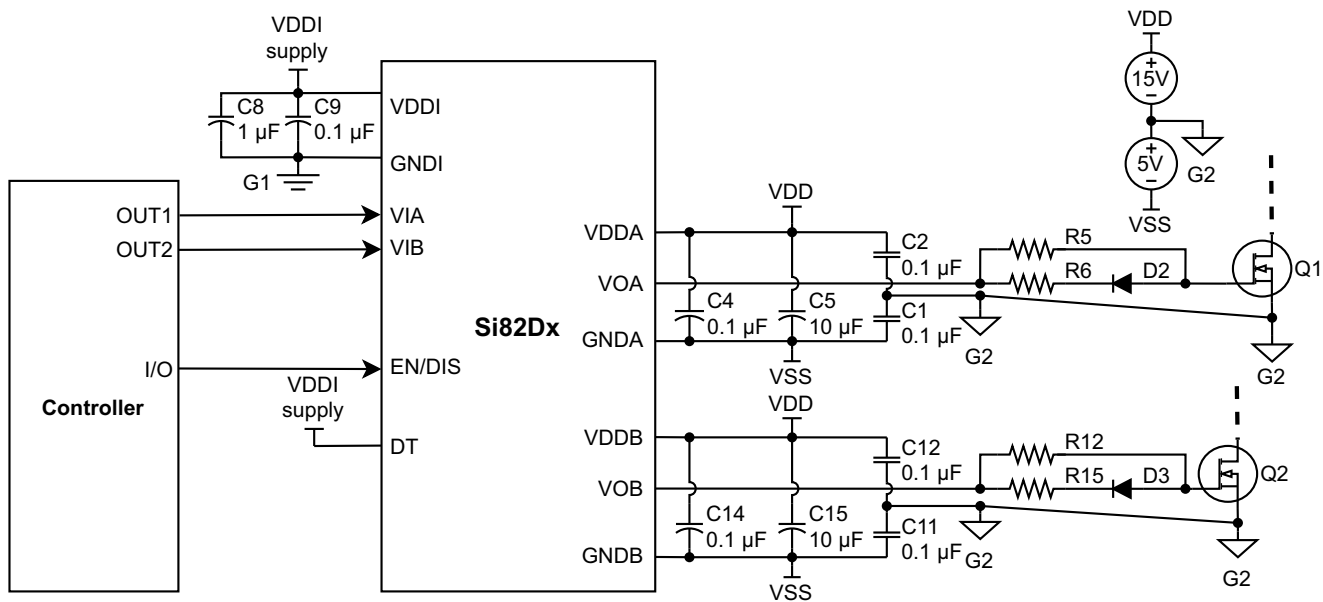

Figure 19. Dual Low-Side Driver Application Circuit
Figure 19 below depicts the circuit for driving dual low-side FETs. When the dead-time pin (DT) is tied to the logic input supply (VDDI), the Si82Dx device operates as a dual gate driver without overlap protection or dead-time insertion. In this dual-driver mode, the Si82Dx device can be used for High-Side/Low-Side, dual high-side, dual low-side, or any circuit topology. However, the controller is responsible for providing overlap protection and dead-time insertion. In the dual low-side circuit topology depicted below, the +15 V and –5 V sources are shared by gate drivers A and B to generate bipolar V_{GS} outputs. For a dual high-side application, driver A and driver B cannot share the same power supply and will require individual isolated power supplies, even if the V_{GS} output is unipolar.